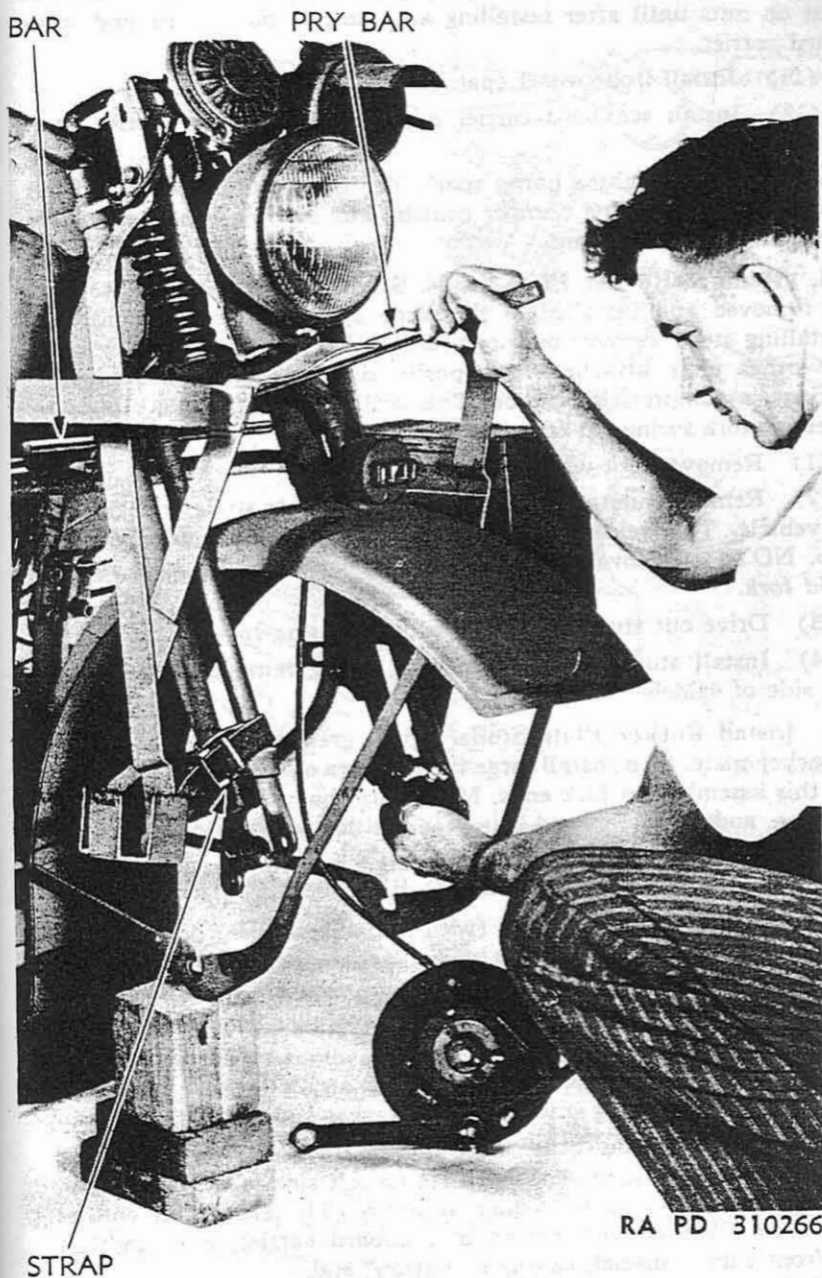

Figure 64—Compressing Cushion Springs for Spring Fork Assembly
(1) Place buffer springs and lower cushion springs on fork rods. Apply grease to rods. Pass fork rods up through rigid fork bracket. Bind lower end of spring fork to lower end of rigid fork with a strap or piece of heavy wire (fig. 64), to prevent forks from separating while compressing cushion springs.
(2) Install two bolts in the rigid fork brackets which mount the mudguard; then place a rod about 8 inches long on the brackets to provide a pry base for the leverage bar when compressing cushion springs (fig. 64). With a leverage bar about 18 inches long, anchored on top of the pry base rod and under the spring fork, lift upward to compress cushion springs sufficiently to install one of the rocker plates. Then install the other rocker plate (fig. 64). **NOTE:** Left side spring fork rocker plate stud has a button end which fits into notch in brake stabilizer plate.
(3) Install mudguard (par. 104).
(4) Install front wheel (par. 125).